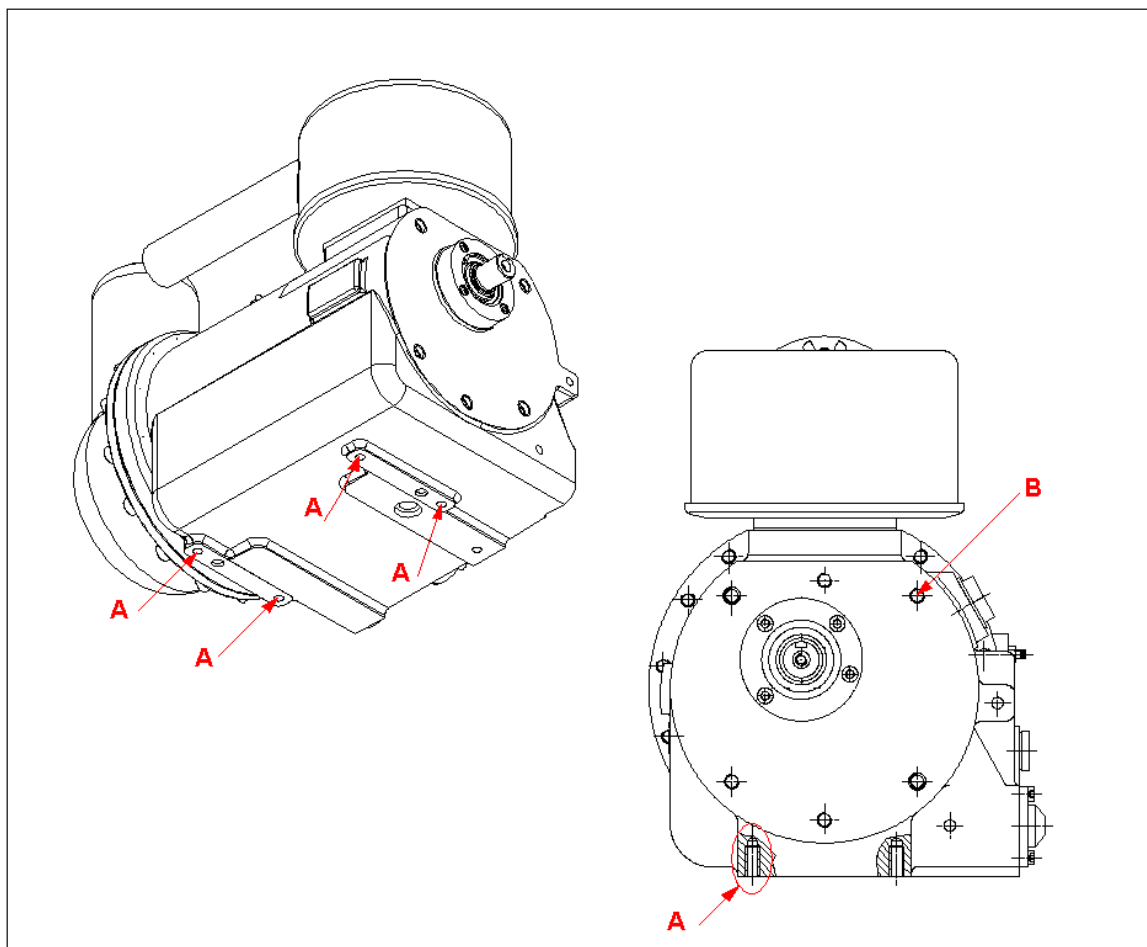

FIG.1.18 – FM compressor reference lay-out
- FM to be used flange mounted, fixing it by n°6 M10 reference holes (named B in figure 1.18); if necessary it is possible to mount it on the base too, by n°4 M10 reference holes (named A in figure 1.18)